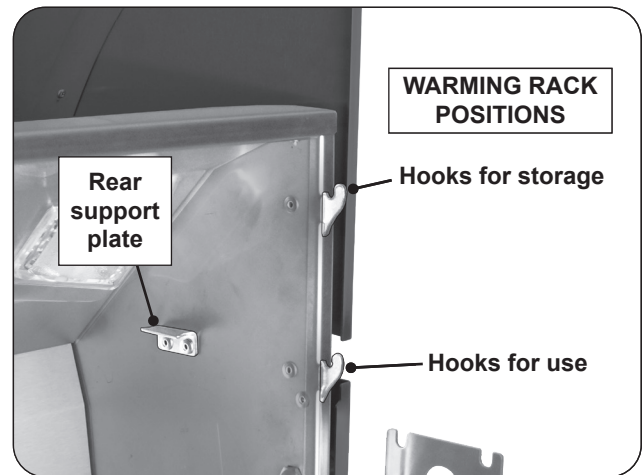

Fig. 25-2 Warming rack hooks
1. Locate the warming rack hooks and rear supports found on the upper portion of the grill oven (see Fig. 25-2).